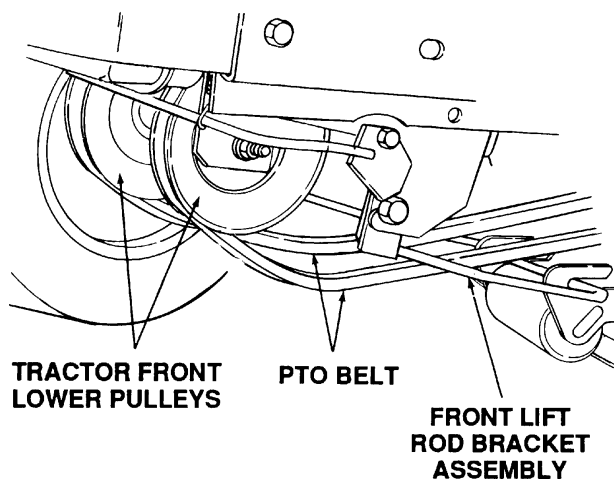

Figure 51
10. Pass the PTO belt downward, inside the tractor frame, until the belt is below the two tractor front lower pulleys and pull the belt clear of the tractor (Refer to Figure 51).